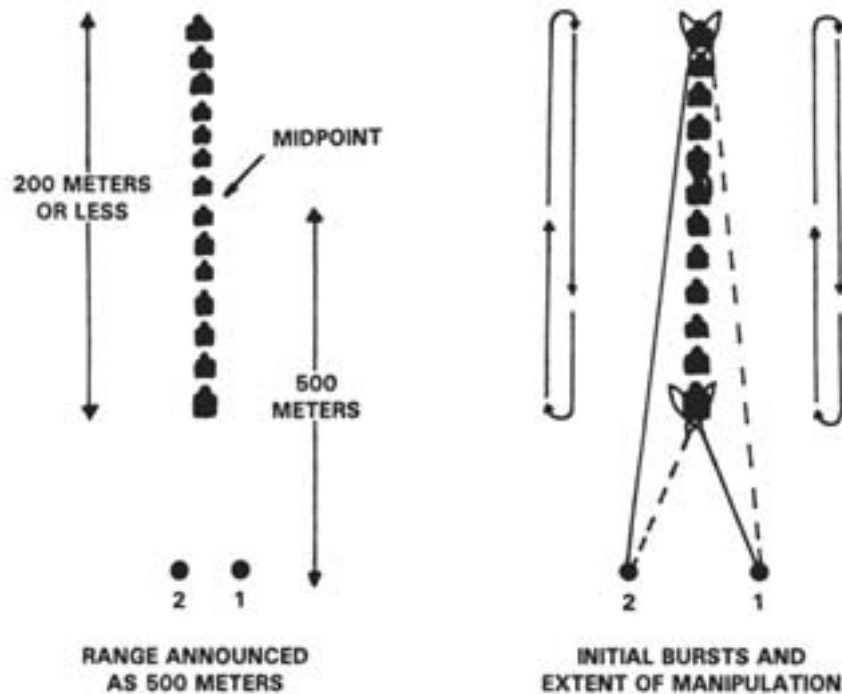

Figure 6-17. Engaging a Deep Enfilade Target With a Pair of Guns, Ends Visible to Gunners.
(1) **Stationary deep target, ends visible to gunner.** See figure 6-17. Deep targets which are stationary or have limited mobility require only searching fire to cover them effectively. When the ends are visible to the gunners, the number 1 gun is laid initially on the near end of the target; and the number 2 gun is laid initially on the far end. The fires on each gun are adjusted on these initial aiming points and searched to the far and near ends of the target, respectively. After searching the full extent of the target, the direction of search of each gun is reversed, and both guns are searched up and down between these two limits, covering the entire target until cease firing is given. In determining the sight setting to be placed on the guns, the depth of the target is considered when firing a squad of guns. If the depth of the target is estimated to be 200 meters or less, the range announced for both